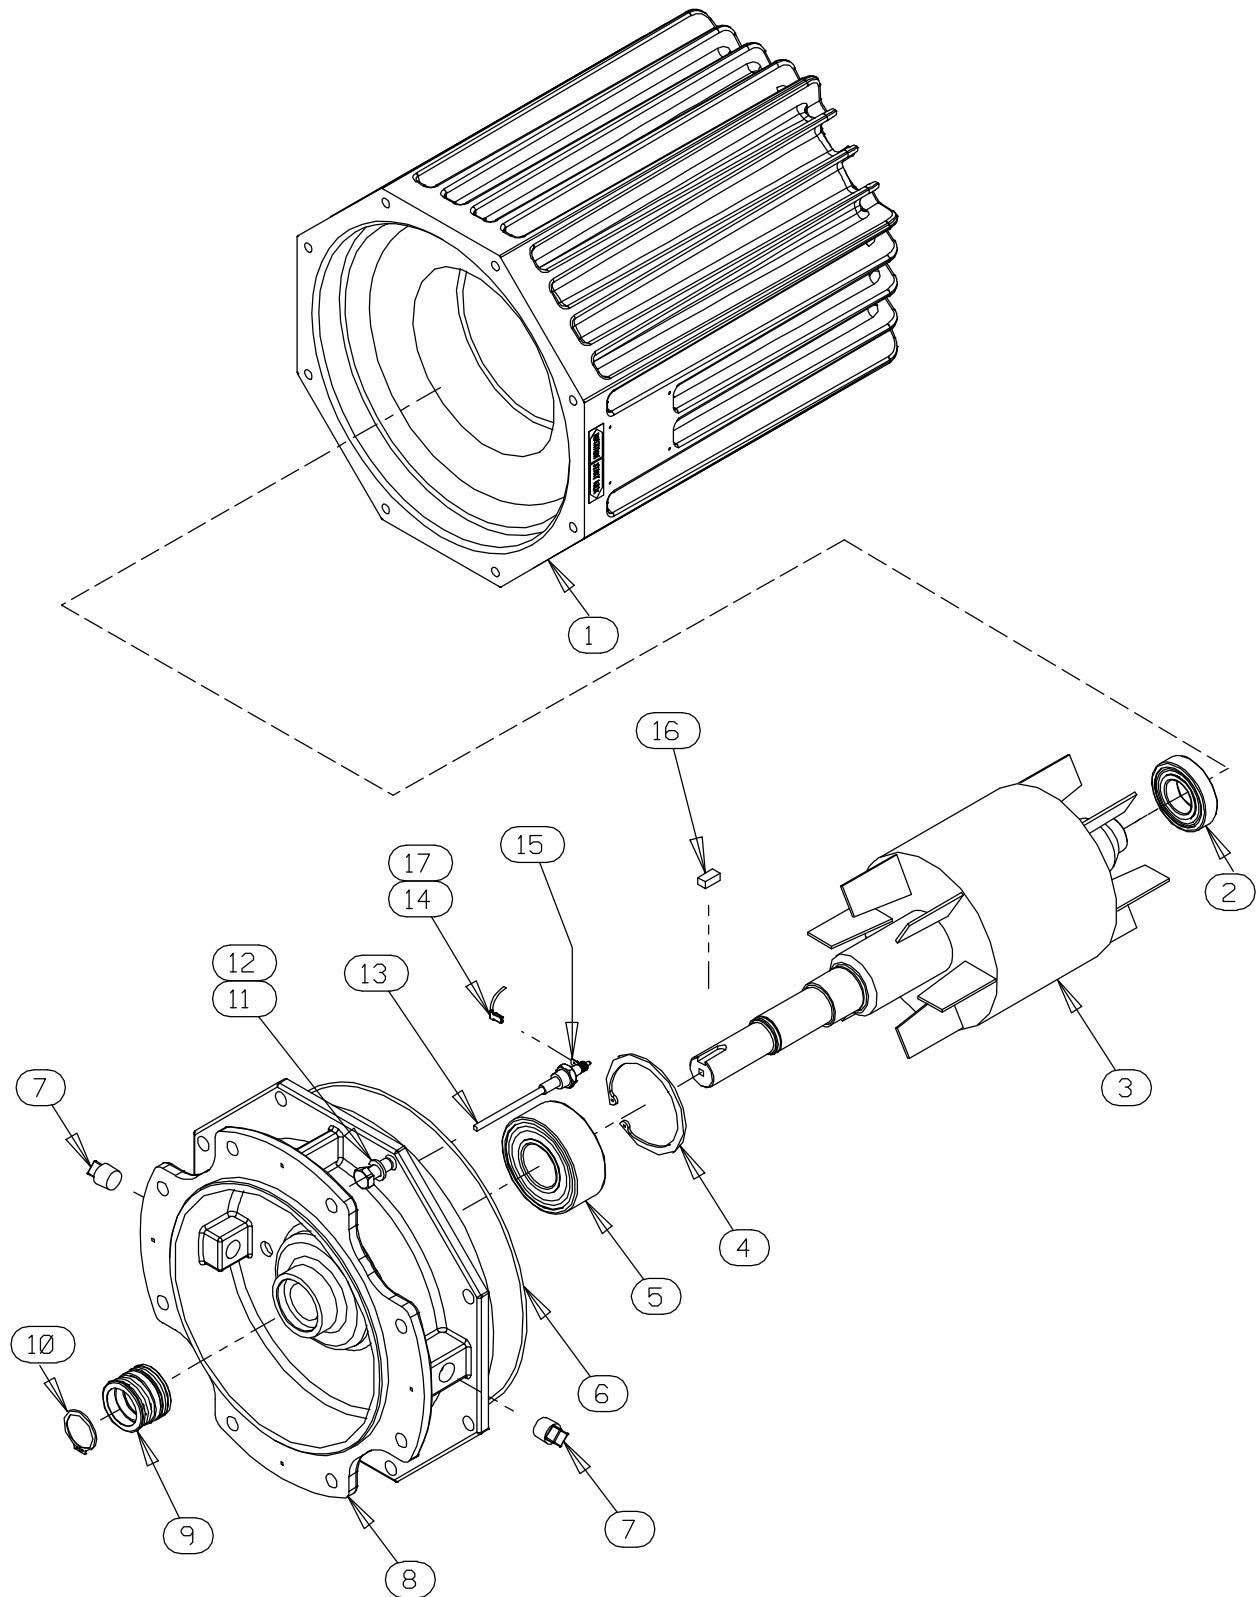

Figure E-2. 47111-821, -822 and -823 Motor Assemblies
Draining Oil From Seal Cavity**(Figure E-2)**
To remove the impeller, use two thin-bladed screwdrivers positioned 180° apart to pry on the back of the impeller and “walk” the impeller off the shaft. Use increasingly larger screwdrivers (or wedges) as necessary. After the impeller comes free of the shaft, retain the impeller key (16, Figure E-2).